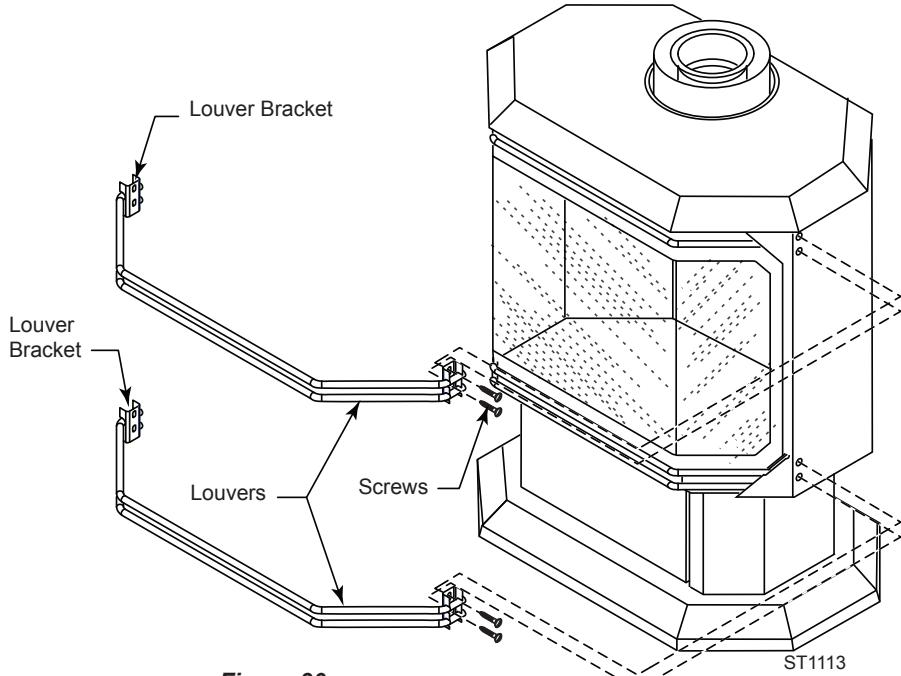

Figure 30 -
Attach the top louver unit (two louvers and two louver brackets) to stove with four (4) screws provided — two (2) on each side. *Figure 30*. Repeat for bottom louver unit.